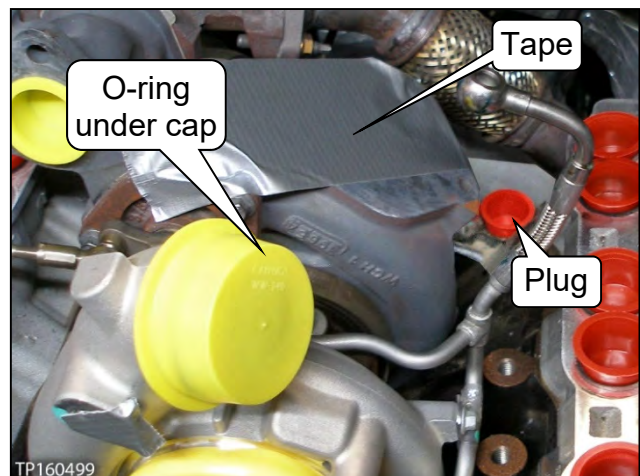

Figure 62
3. Remove the cap, tape, and plug shown in Figure 62.
4. Replace the low pressure turbocharger's O-ring with a new one (see Figure 62).